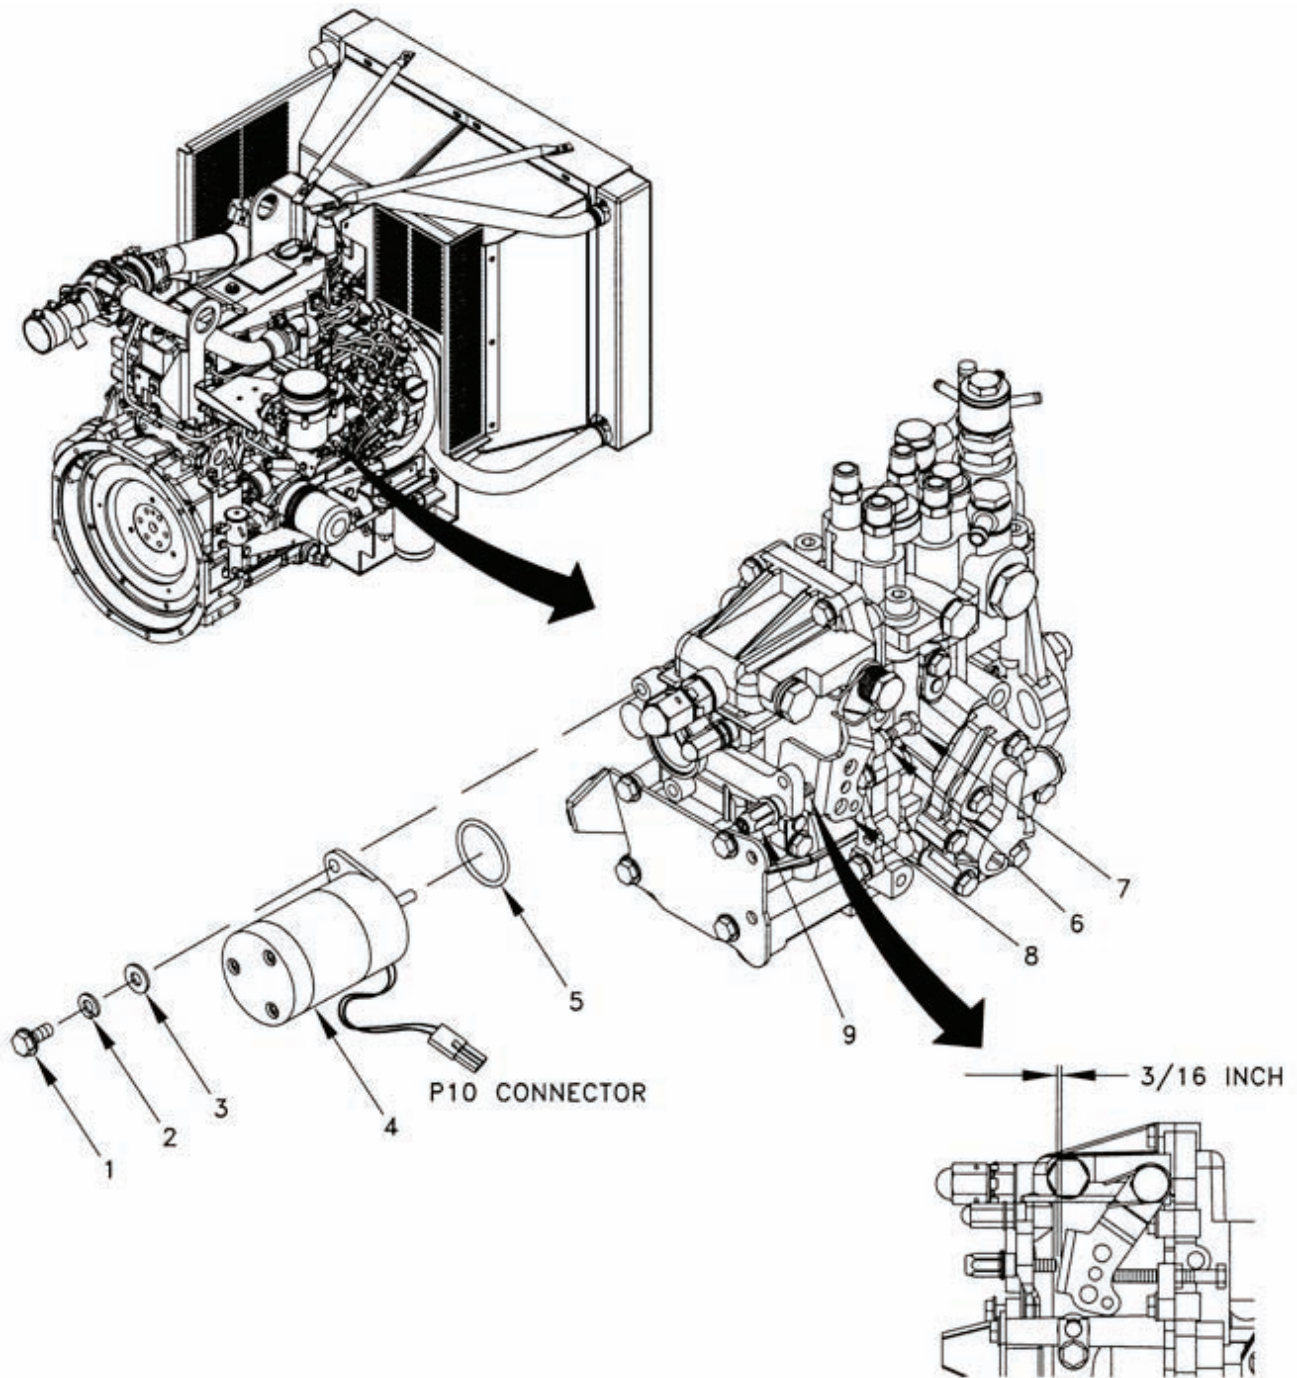

Figure 4-7. Governor Actuator Assembly – MEP-804B/MEP-814B.
- c. Open right side engine access door and disconnect connector P10 (Figure 4-7) from engine electrical harness.
- e. Remove screws (1, Figure 4-7), lock washers (2), flat washers (3), governor actuator (4), and O-ring (5). Discard lock washers (2).
- a. Install governor actuator (4, Figure 4-7) and O-ring (5) with screws (1), new lock washers (2), and flat washers (3).